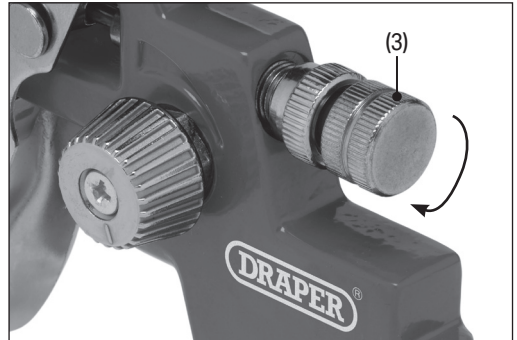

Fig. 3
2. Rotate the fluid control dial (3) clockwise as far as possible to close the fluid valve (Fig. 3).